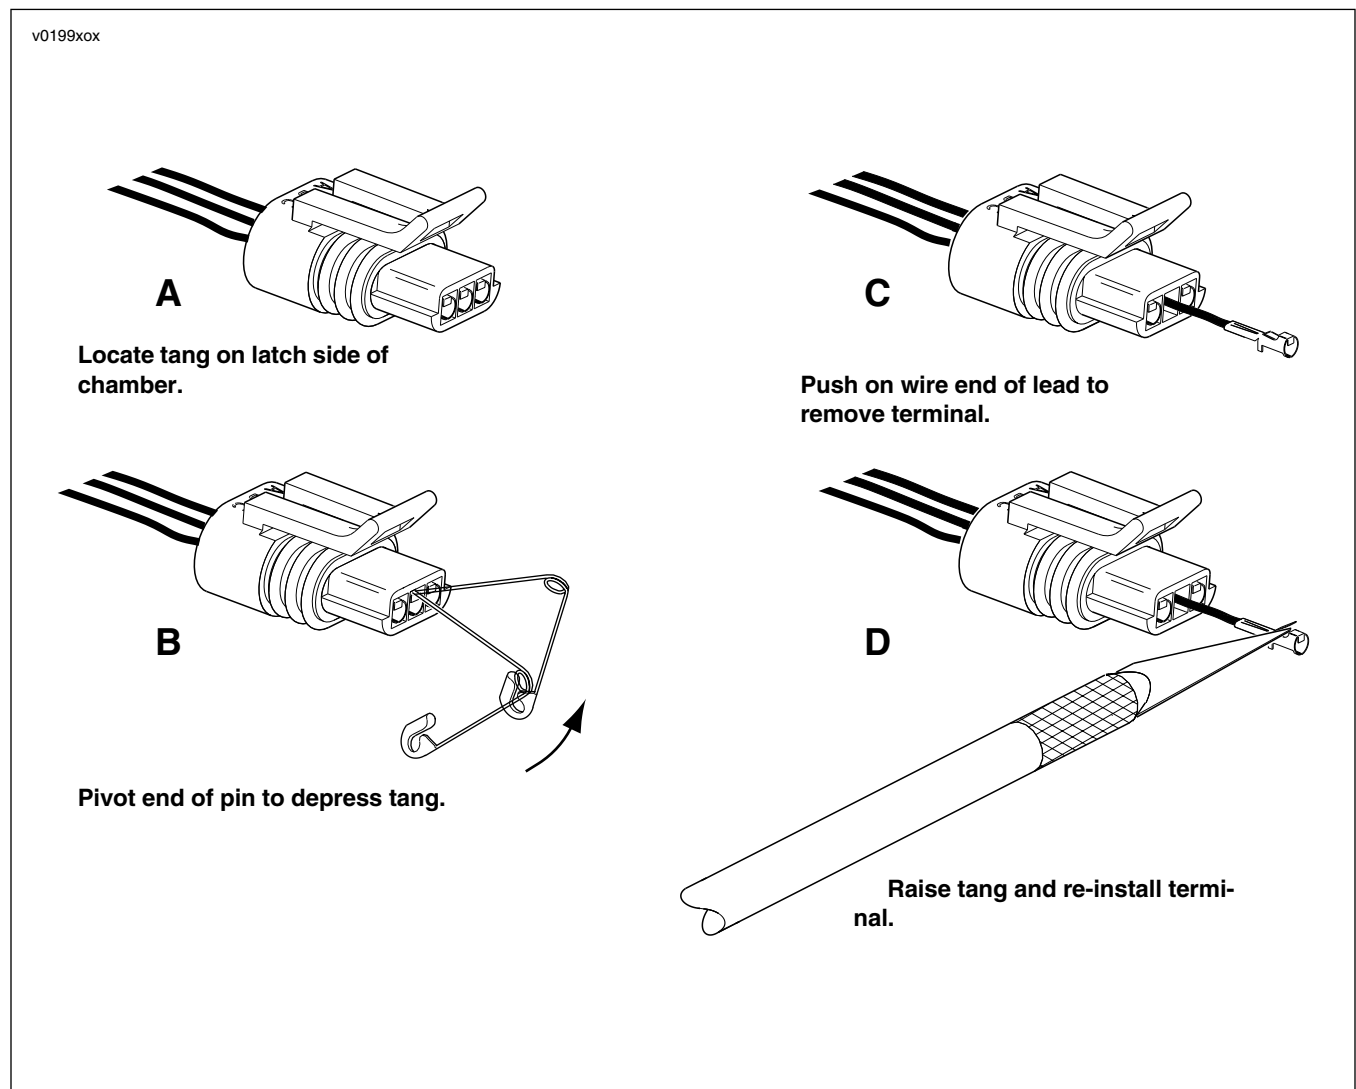

Figure 5-20. Packard Connectors
Two types of Packard pull-to-seat electrical connectors are used. One type has an external latch to lock the terminal and socket halves together, while the other makes use of a wire-form. See Figure 5-20. The manner in which the terminals are picked differs between these two types of connectors, as further described below.
3. To free a pull-to-seat terminal from the connector housing, first look into the mating end of the connector to find the locking tang. See A in Figure 5-20. The tangs are always positioned in the middle of the chamber and are on the same side as the external latch. On those connectors with locking ears, the tang is on the side opposite the ear.
4. At a slight angle, gently insert the point of a one inch safety pin down the middle of the chamber (about 1/8 inch) and pivot the end of the pin toward the terminal body. When a click is heard, remove the terminal and repeat the procedure. See B in Figure 5-20. The click is the sound of the tang returning to the locked position as it slips from the point of the pin. Pick at the tang in this manner until the clicking stops and the pin seems to slide in at a slightly greater depth than it had previously. This is an indication that the tang has been depressed.
5. Remove the terminal and push on the wire end of the lead to extract the terminal from the mating end of the connector. See C in Figure 5-20. If necessary, pull back the conduit and remove the wire seal at the back of the connector to introduce some slack in the wires.
1. To install a terminal back into the chamber of the connector housing, use a thin flat blade, like that on an X-Acto knife, and carefully bend the tang outward away from the terminal body. See D in Figure 5-20.